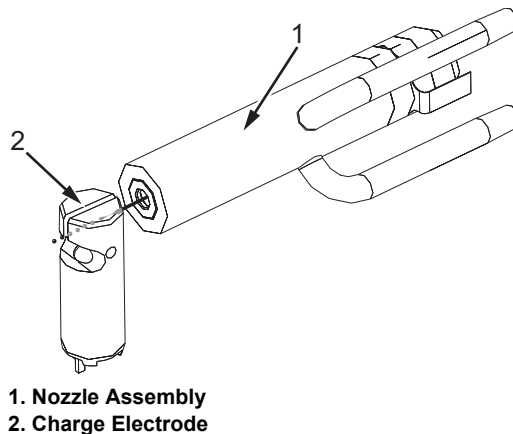

Figure 3-41: Charge Electrode
11 The charge electrode (item 2 in Figure 3-41) is positioned at the break up point of the ink stream and extends for several drops either side of it.